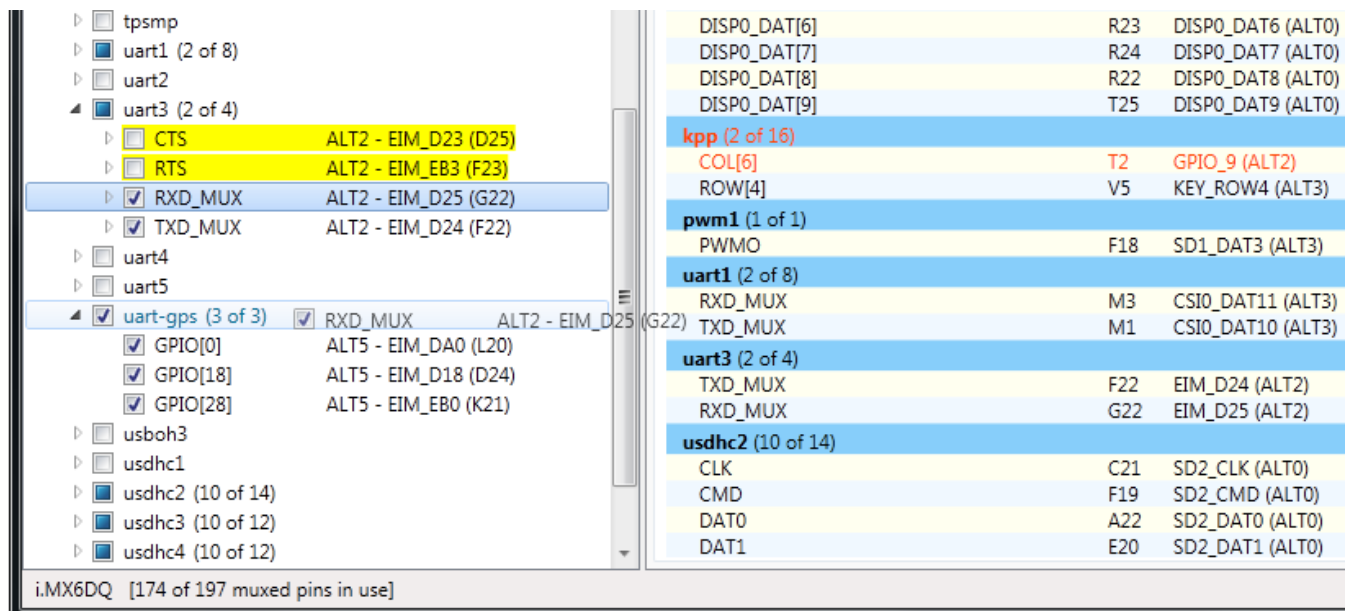

Figure 30. Temporarily renaming the destination module to facilitate signal relocation.
8. Right-click->Rename the new 'gps' module to 'uart-gps' to make it easier to drag the UART3 signals into the 'gps' module (see Figure 30).